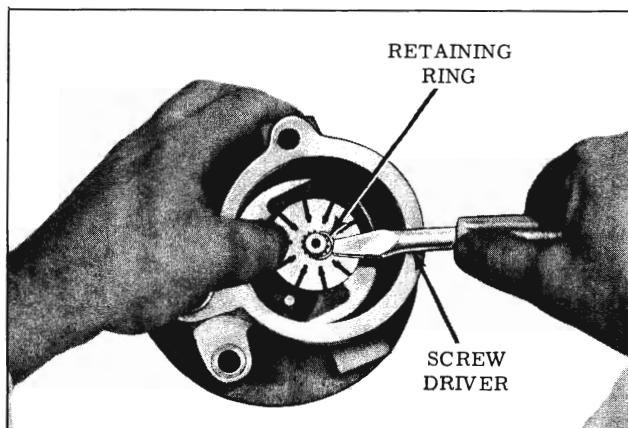

Fig. 4-241 Installing Rotor Snap Ring
4. Using a suitable tool, install shaft retaining ring. (Fig. 4-241)